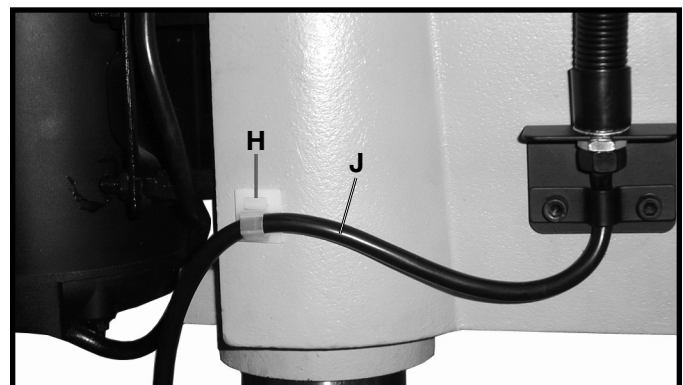

Fig. 19
22. Peel backing from cord clamp (H) Fig. 19, and apply clamp at the location shown. Make certain the lamp cord is routed out of the way of the drill, then secure cord (J) to cord clamp (H) as shown in Fig. 19.